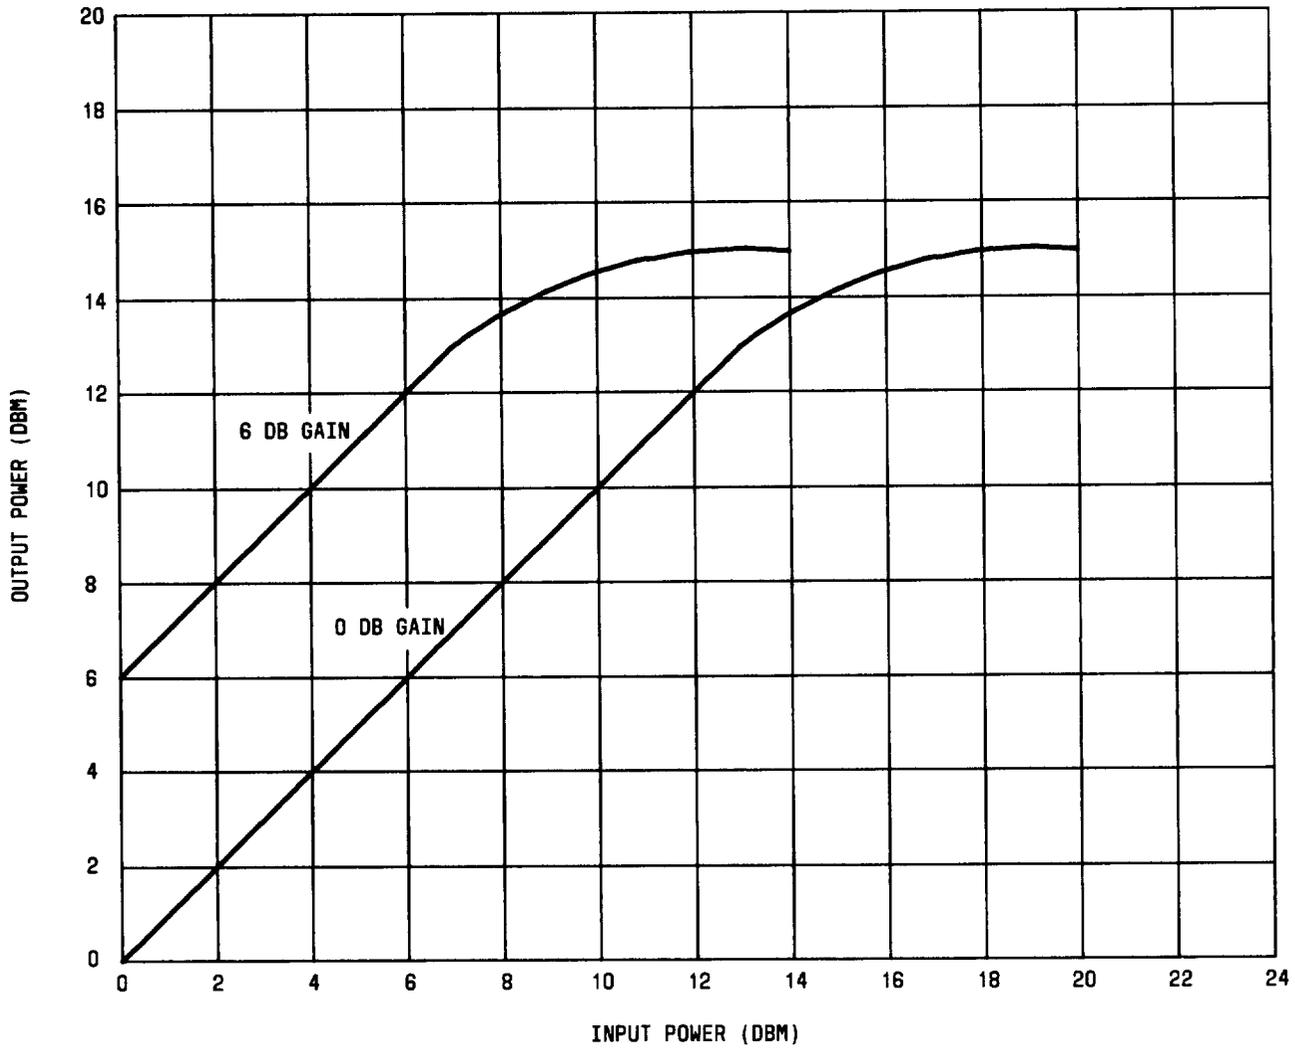

Fig. 5—Output Power Characteristic Curve
3.05 Figure 5 shows the output power capability of the J99343GC unit. The output power is determined by input power and repeater gain, as shown by the +6 dB gain line in the figure. Power limiting occurs in this unit at about 13.5 dBm.